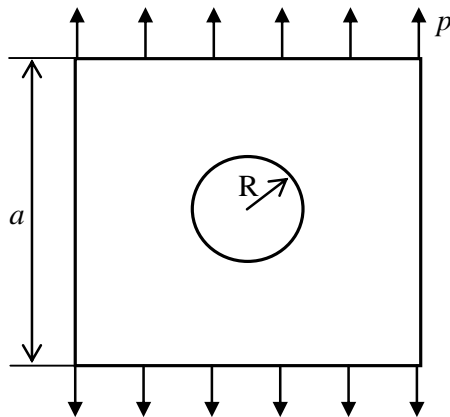

Figure 2a
Assignment. Perform plane stress finite element analysis of a square plate of thickness $t = 6 \text{ mm}$ with a circular hole of radius $R = 12 \text{ cm}$ subjected to tensile stretching of $p = 100 \text{ MPa}$ (Fig. 2a). Assume the plate to be made of steel with $E = 220 \text{ GPa}$ and $\nu = 0.2$. Investigate how the relative size of the hole influences the stress concentrations by considering square plates with the side length (1) $a = 40 \text{ cm}$, (2) $a = 60 \text{ cm}$ and (3) $a = 80 \text{ cm}$.